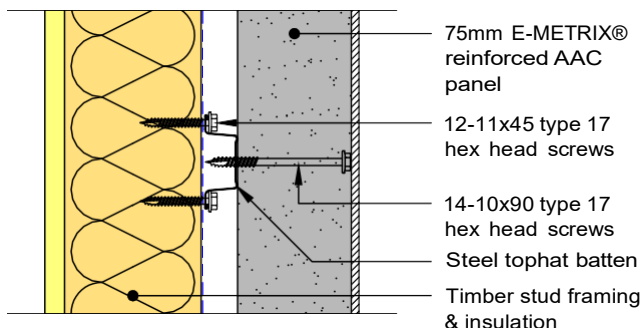

Figure 8 - Fixing detail
The 75-mm E-METRIX® is fixed to the stud framing through the steel tophat batten which forms a cavity. The fixing method is illustrated in Figure 8 below.
The steel tophat batten shall be fixed at each batten/stud intersection using the screws nominated above in Figure 8 above.
10. Fix the battens to each stud in accordance with Figure 8 - Fixing detail, ensuring the batten follows the locations marked previously. Packing of the stud framing may be required to ensure that the battens are plumb and straight. Ensure the battens are discontinuous at vertical control joint locations.